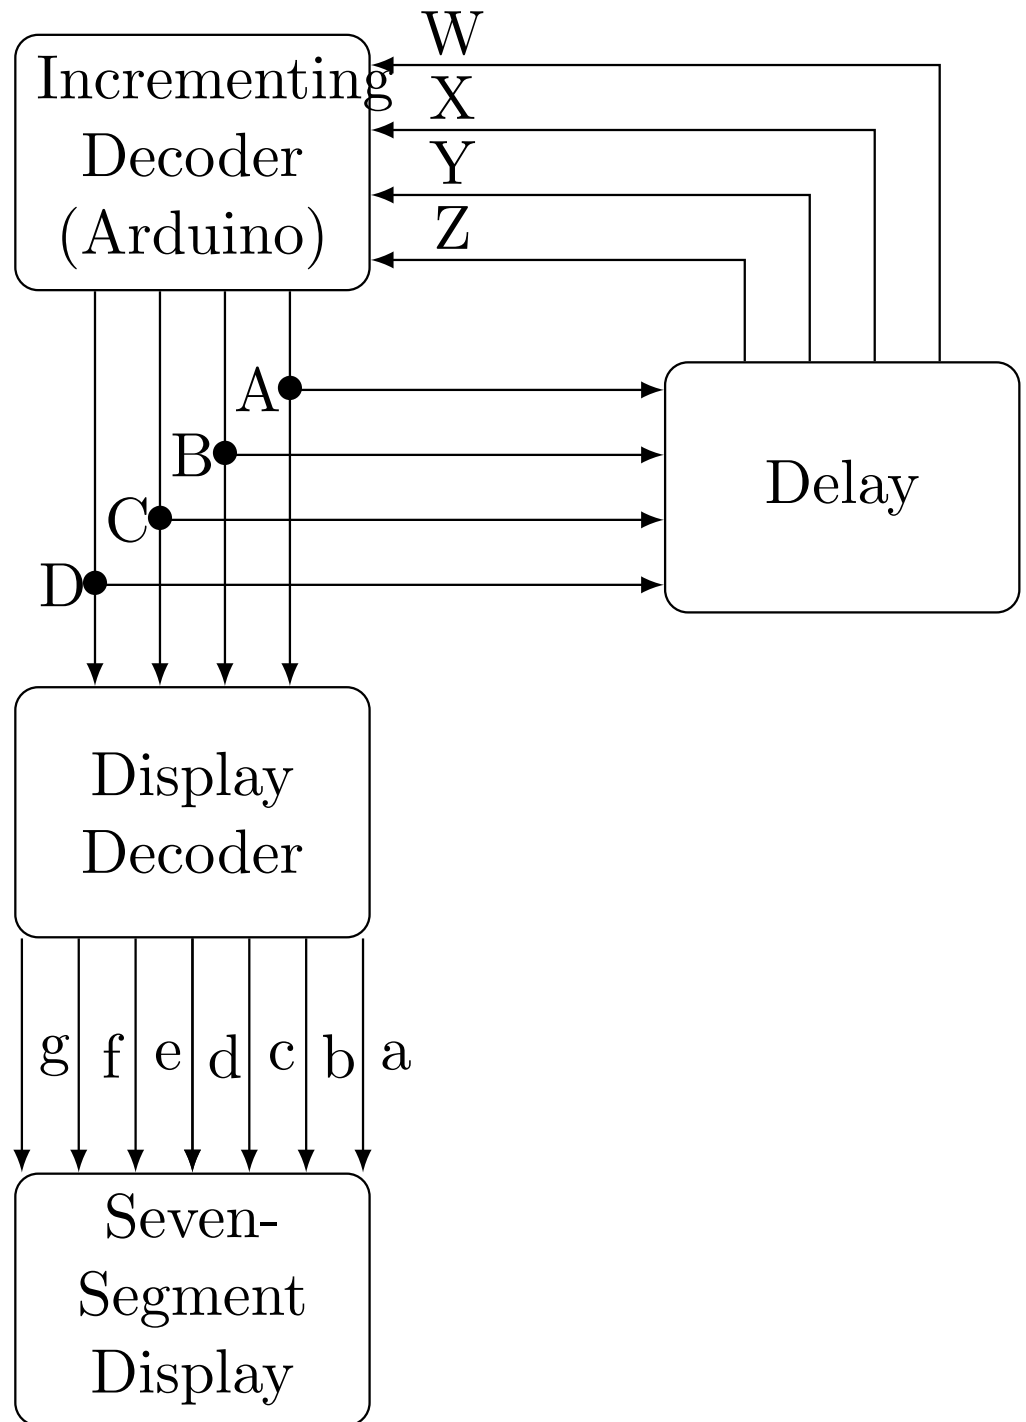
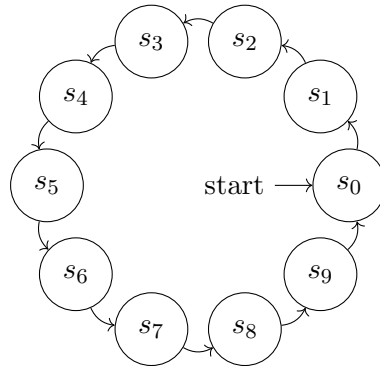
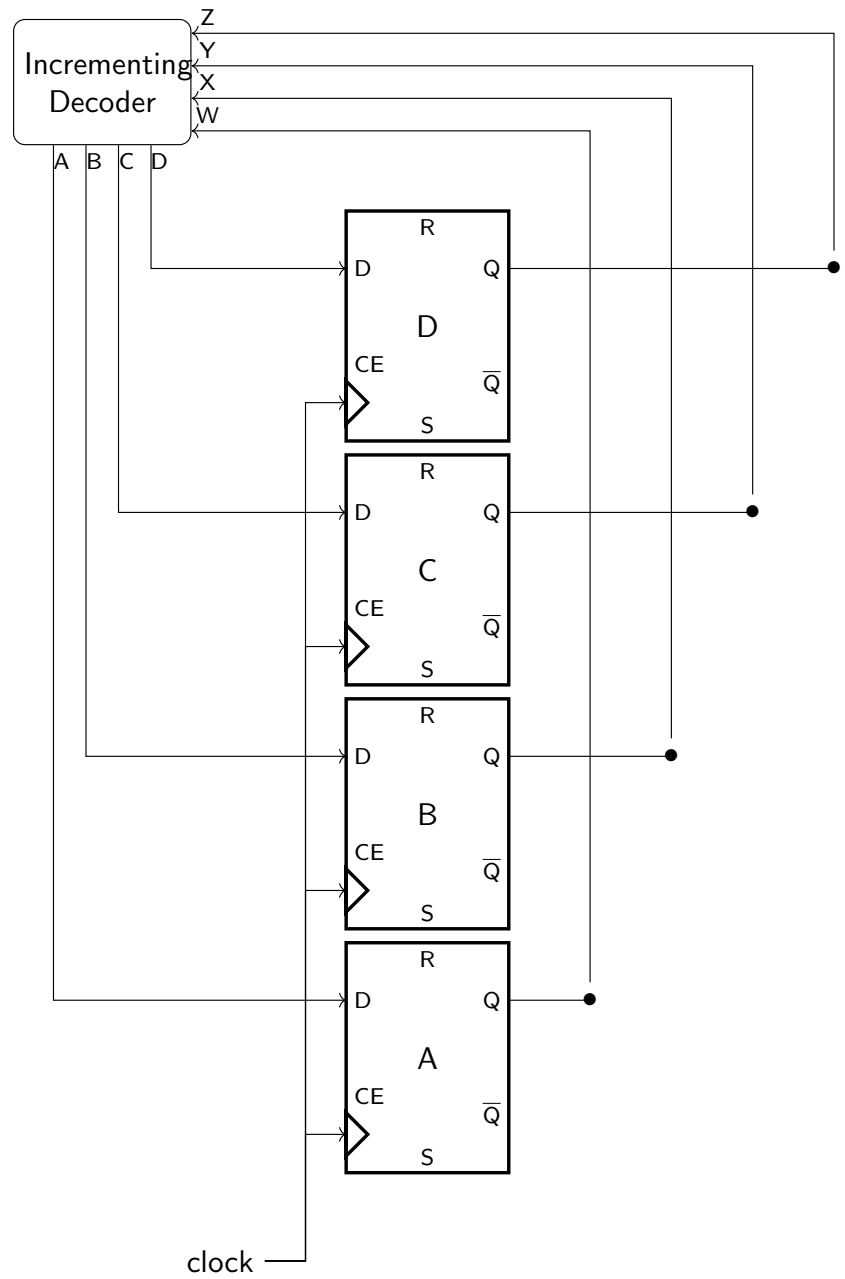

Figure 5.2:
Figure 6.1: FSM for the decade counter
Figure 6.2: Decade counter FSM implementation using D-Flip Flops
2. Connect the Arduino, 7447 and the two 7474 ICs according to Table 5.2 and Fig. 5.2.
3. Realize the decade counter in Fig. 5.2.
The block diagram of a decade counter (repeatedly counts up from 0 to 9) is available in Fig 5.2 The incrementing decoder and display decoder are part of combinational logic, while the delay is part of sequential logic
1. Fig 6.1 shows a finite state machine (FSM) diagram for the decade counter in Fig 5.2  $s_0$  is the state when the input to the incrementing decoder is 0 The state transition table for the FSM is Table 3.5, where the present state is denoted by the variables  $W, X, Y, Z$  and the next state by  $A, B, C, D$ .
2. The FSM implementation is available in Fig 6.2 The flip-flops hold the input for the time that is given by the clock This is nothing but the implementation of the Delay block in Fig 5.2
For the FSM in Fig 6.1, the number of states is 10, hence the number flipflops required